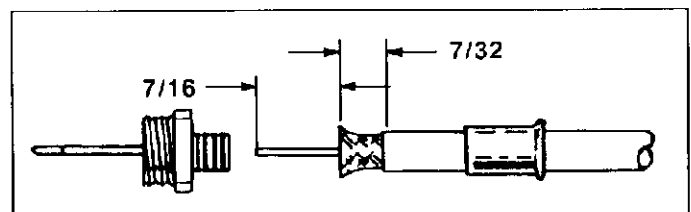

Fig. 2
1. Slip ferrule on cable, then strip cable and flare braid as shown in Figures 2, 3, and 4.